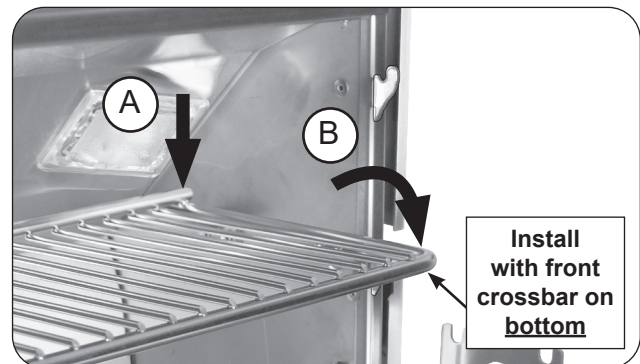

Fig. 28-2 Place warming rack for use
2. With the warming rack oriented as shown, carefully rest the rear of the rack onto the rear support plates (see Fig. 28-2, A), then lower the warming rack arms onto the lower hooks for use (see Fig. 28-2, B).